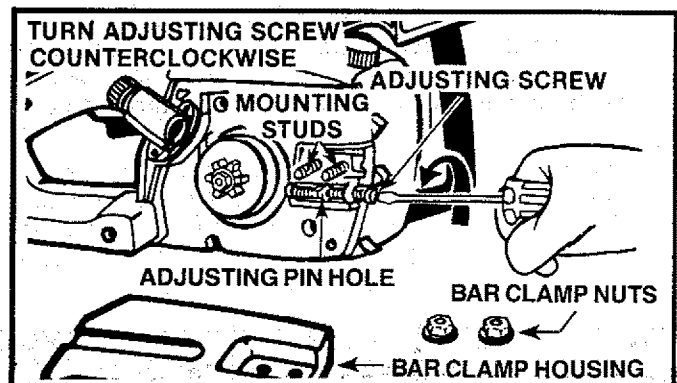

Figure 3
2. Turn the Adjusting Screw counterclockwise to position the Adjusting Pin nearly as far as it will go to the rear. Figure 3.